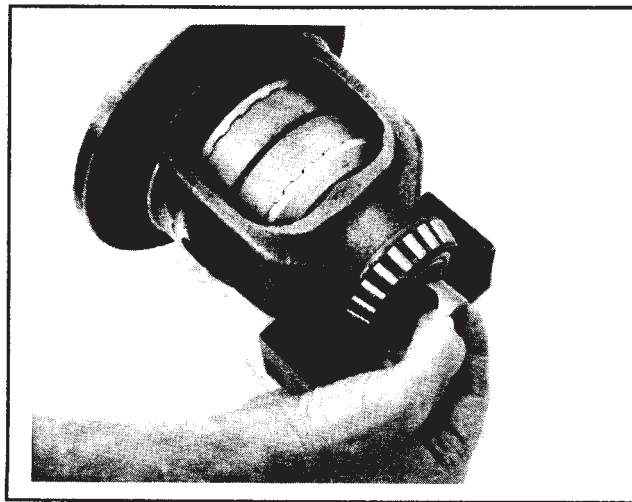

Figure 12
3. Push the axle shaft thrust block, if used in your assembly, into one end of the differential case and into the center of the spacers (Figure 12). Orient it so that the hole in the center is in line with the pinion shaft holes in the case.